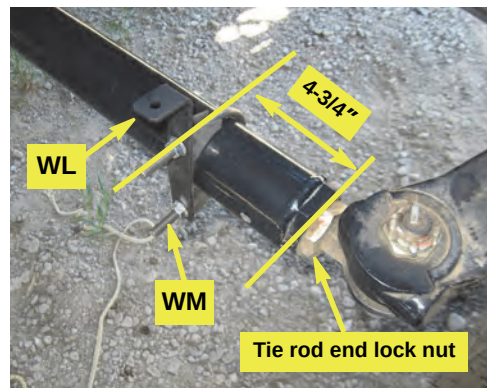

Figure 2c: WAS link rod bracket installed
- c. Using U-bolt **WM**, mount link rod bracket **WL** on the forward side of the tie rod. Set the center of the U-bolt 4¾" from the inner edge of the tie rod end lock nut. Mount the bracket with its short leg upward and pointing forward, away from the tie rod. Ensure bracket **WL** is vertical (Figure 2c).